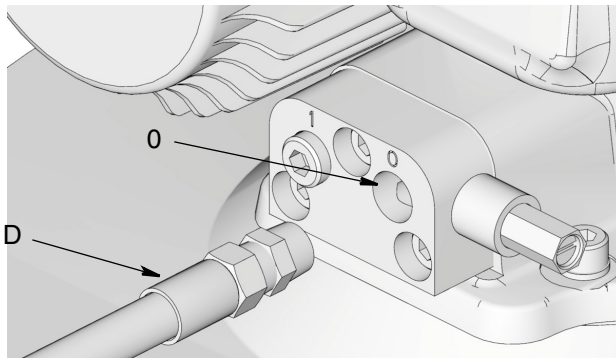

FIG. 62: Lubricant Outlet Connection
3. Disconnect Timer/Controller (F) (user supplied, if used).
4. Disconnect High Pressure Lubricant Supply Line (D) to the Lubricant Output Connection (O) (FIG. 62) on the Vent Valve or Manifold.